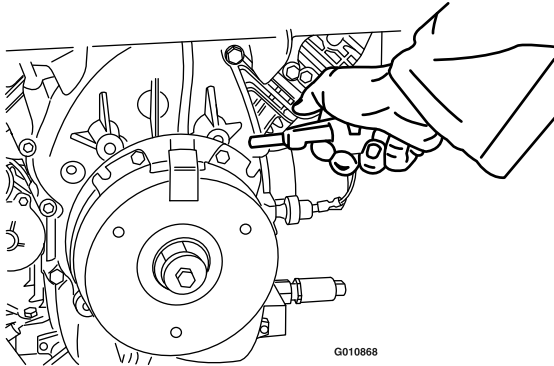

Figure 77
3. Using an air compressor, blow out any debris from under the brake pole and around the brake spacers (Figure 77).